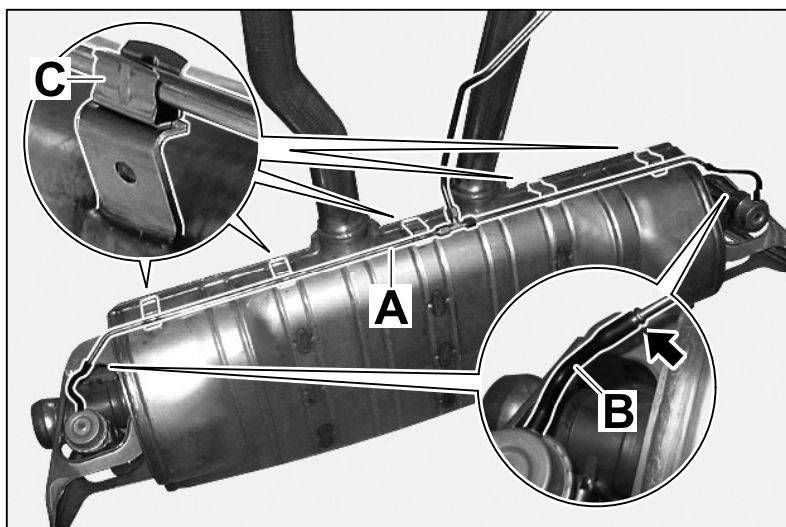

Figure 4
- 2.1 Install rear silencer control line ⇒ *Figure 4 -A-* into the rear silencer holders ⇒ *Figure 4 -C-*.
Slide vacuum hoses ⇒ *Figure 4 -B-* onto the vacuum unit.
Slide vacuum hose as far as it will go ⇒ *Figure 4 -arrow-* onto the rear silencer control line.